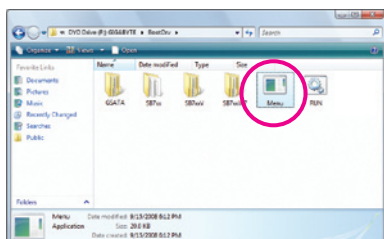
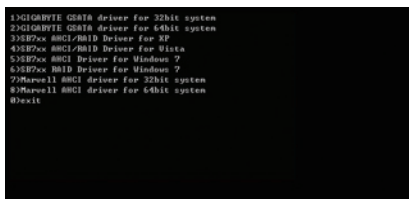

Figure 2
Figure 3
- 2: From your optical drive folder, double click the Menu.exe file in the BootDrv folder (Figure 2). A Command Prompt window will open similar to that in Figure 3.
- 3: Insert the blank formatted disk. Select the controller driver by pressing the corresponding letter from the menu and press <Enter>. For example, from the menu in Figure 3, to install Windows XP to the RAID/AHCI hard drives, select **3) SB7xx AHCI/RAID Driver for XP**.